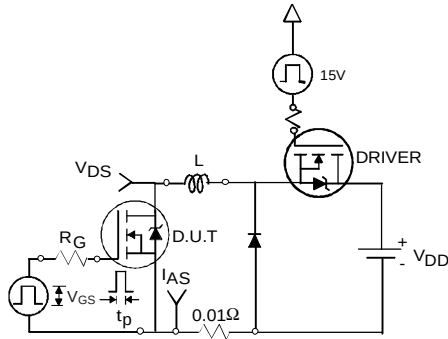

Fig 12a. Unclamped Inductive Test Circuit
3. Equation below based on circuit and waveforms shown in Figures 12a, 12b.
- ② Limited by T_{Jmax} , starting $T_J = 25^\circ\text{C}$, $L = 0.28\text{mH}$, $R_G = 25\Omega$, $I_{AS} = 33\text{A}$, $V_{GS} = 10\text{V}$. Part not recommended for use above this value.
- ③ Pulse width $\leq 1.0\text{ms}$; duty cycle $\leq 2\%$.
- ④ C_{oss} eff. is a fixed capacitance that gives the same charging time as C_{oss} while V_{DS} is rising from 0 to 80% V_{DSS} .
- ⑤ Limited by T_{Jmax} , see Fig.12a, 12b, 15, 16 for typical repetitive avalanche performance.
- ⑥ This value determined from sample failure population. 100% tested to this value in production.
- ⑦ When mounted on 1" square PCB (FR-4 or G-10 Material). For recommended footprint and soldering techniques refer to application note #AN-994.